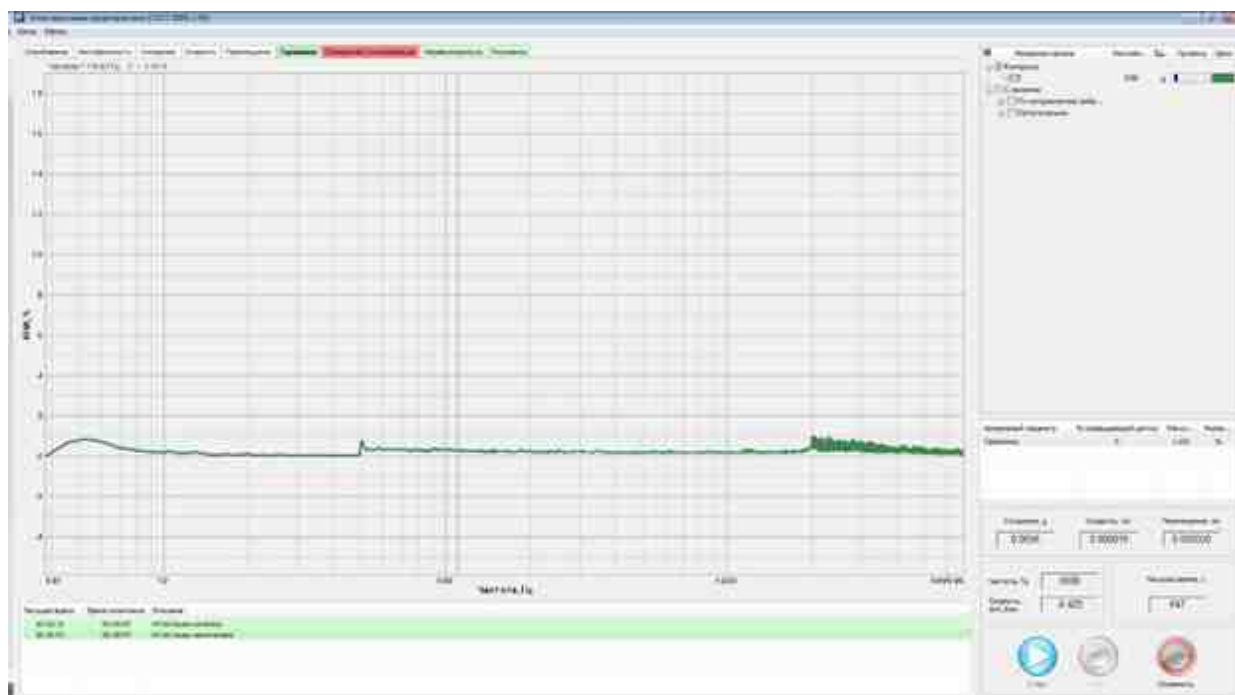

Fig. 6.8 Harmonics tab
4. At the end of the sine signal oscillation within the rated frequency range, the results recorded will be displayed (in numerical and graphical forms) on the Harmonics tab (Fig. 6.8).